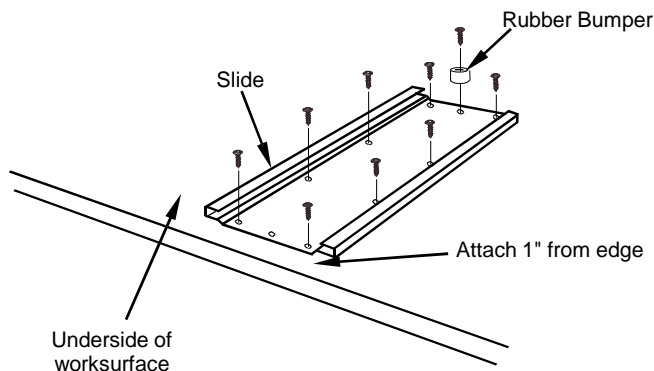

Figure 2
- Attach the slide using (8) #8 x 5/8" PHM screws and tighten securely. **Figure 2.**